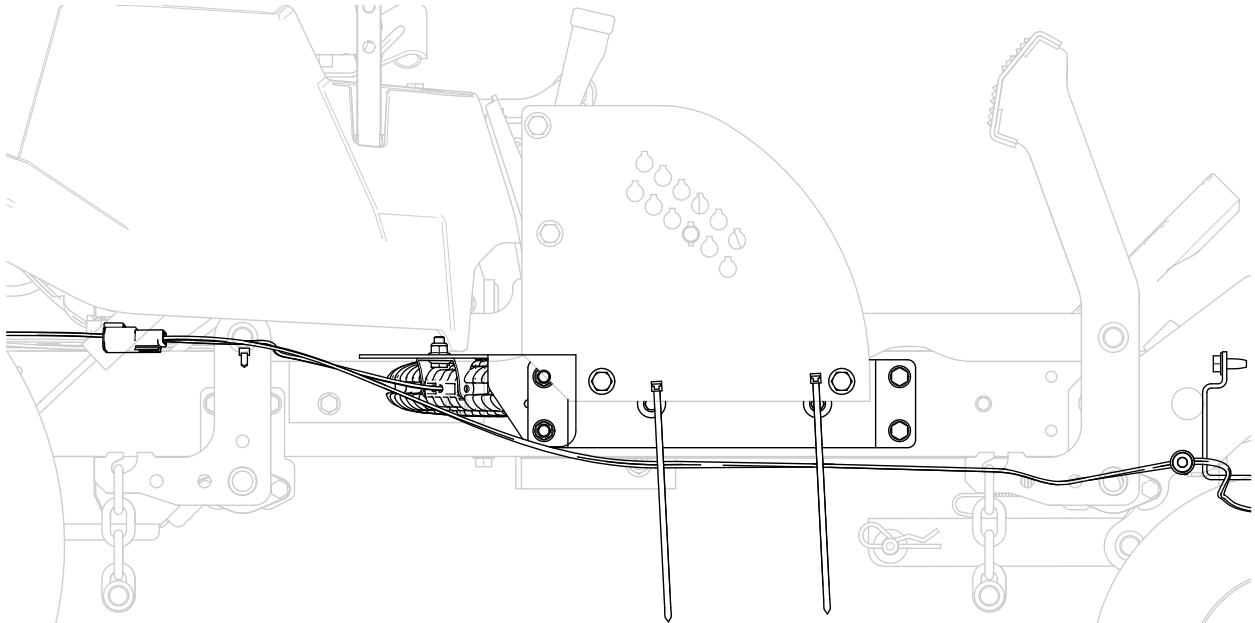

Figure 12
- Continue to route the wire harness along the right side of the machine and secure the wire harness to the lift plate using 2 cable ties (Figure 12).